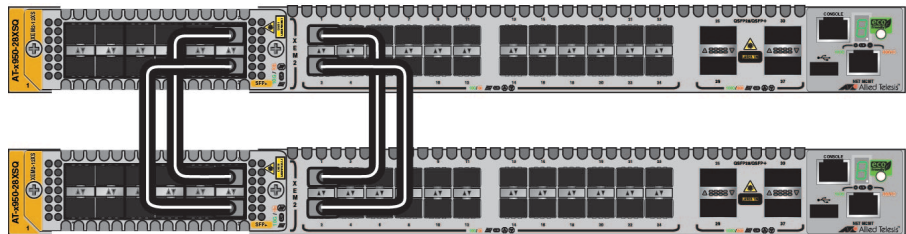

Figure 38. Unsupported Trunk with Both Base and XEM2 Line Card Ports
- ❑ Trunks cannot have both base ports and XEM2 Line Card ports. The unsupported trunk in Figure 38 consists of base 10Gbps ports and ports on XEM2-12XS Line Cards.